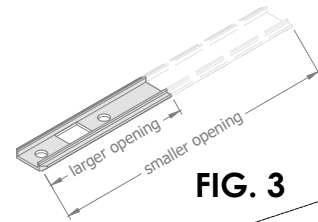

FIG. 3
- If larger opening is desired trim LIMIT DEVICE as needed. See **FIG. 3**. Once installation and any adjustments are complete, bring sash to the original opening and install LIMIT DEVICE into its place.